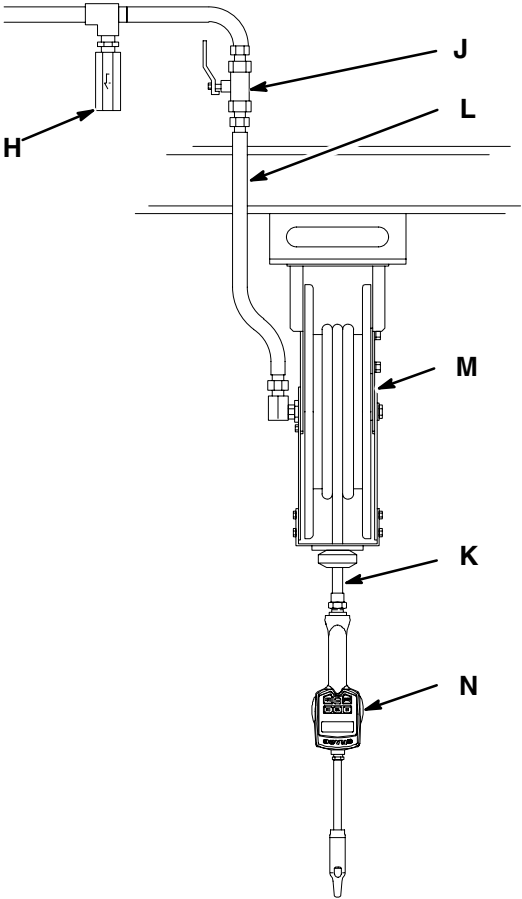
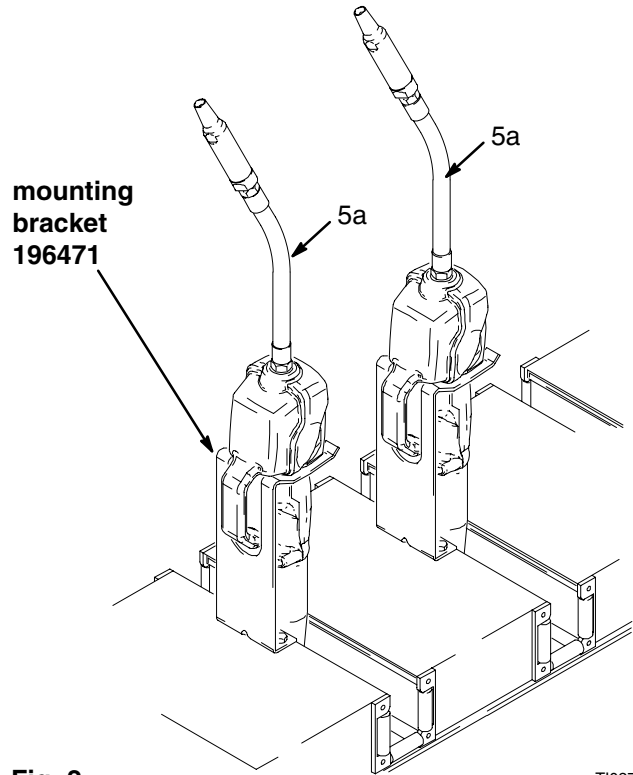

Fig. 1 06174B
Fig. 2 TI0274
Fig. 1 shows a typical hose reel installation. Fig. 2 shows how these dispense valves can be installed on a console.
Mounting bracket 196471 is available for resting an EM5 dispense valve on a console. See Fig. 2.
3. Close the shut-off valve (item J in Fig. 1).